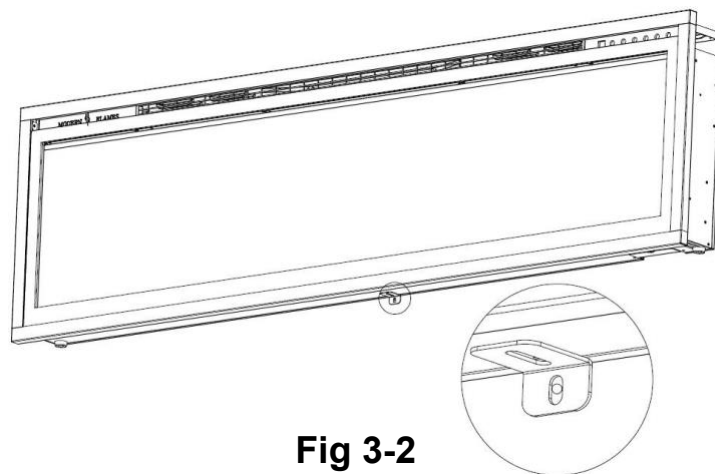

Fig 3-2
B. Using the screw previously removed, attach the L-bracket (O) (supplied) to the bottom of the fireplace box. (Fig 3-2).